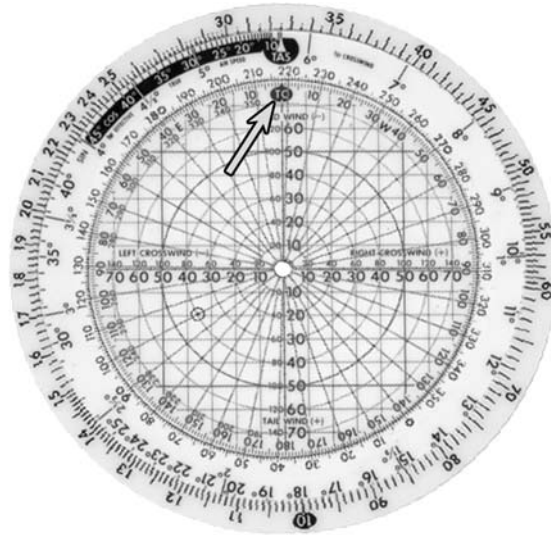

Figure 4.5-14 Preflight Wind Calculation 3
4. Rotate the inner wheel to set the desired TC over the TC arrow. NOTE: at this point, check your estimate. Is it a left tailwind? If not, recheck the preceding steps (Figure 4.5-14).
7. Take the Crosswind velocity from step 5 (Figure 4.5-14 (page 12)), input it on the outer wheel (floating decimal), and read the Crab Angle under it on the middle wheel. (Apply the 10% rule below to verify it is a good value. In this case: $325 \times 10\% = 32.5$, $32.5 \text{ kts} \approx 6^\circ$).